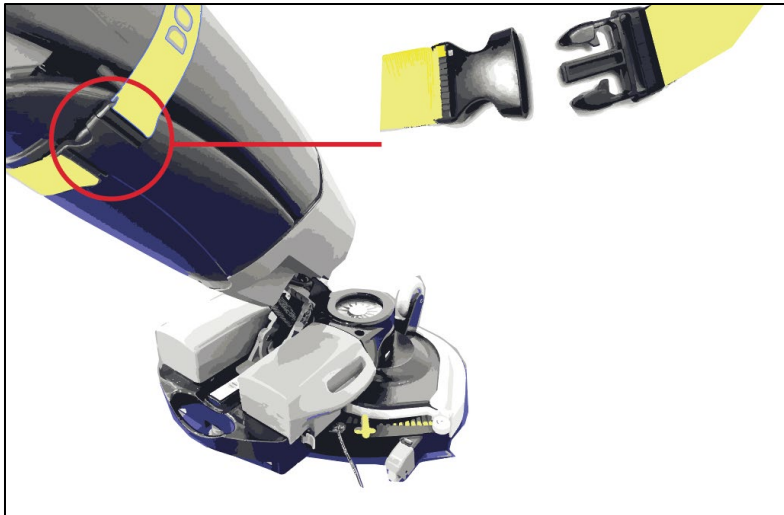

Figure 20
6. Install the safety band over the recovery tank to make sure the tank isn't opened during use (Figure 20).